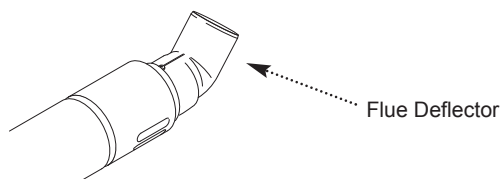

Fig. 16
1. Push the flue deflector over the terminal end, it may point upwards as shown, or up to 45° either way from vertical. Secure the deflector to the terminal with screws provided (Fig. 16).